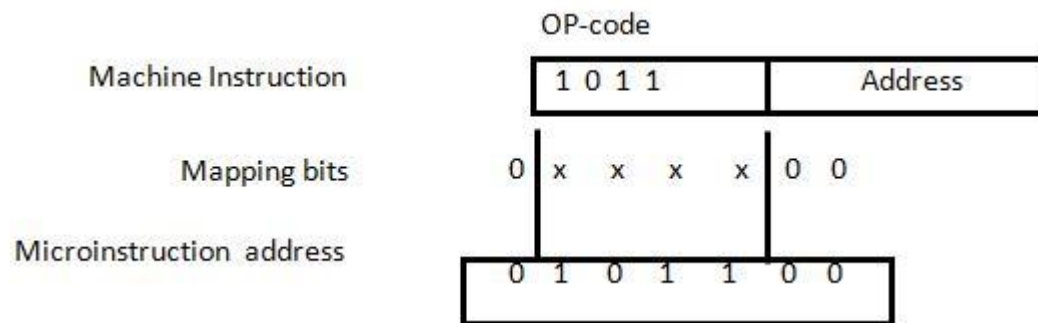

Figure 4.3: Mapping from instruction code to microinstruction address
For example, a computer with a simple instruction format as shown in figure 4.3 has an operation code of four bits which can specify up to 16 distinct instructions.
- One simple mapping process that converts the 4-bit operation code to a 7-bit address for control memory is shown in figure 4.3.